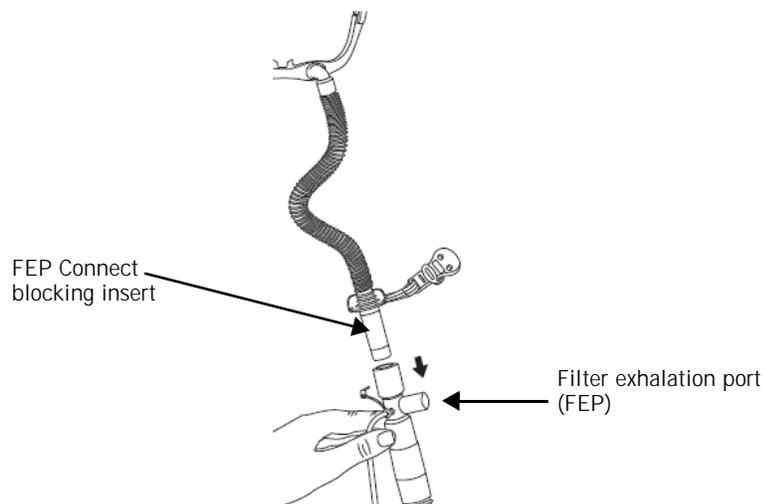

Figure 7-1: High flow nasal cannula using the FEP Connect
Use either the AC611 high flow nasal cannula with FEP Connector (Figure 7-1) or the AC611 high flow nasal cannula 22 mm (Figure 7-3), which connects directly to the patient circuit.
3. Install a Philips-approved high flow nasal cannula (Figure 7-1 and Figure 7-3 above) or a high flow tracheostomy interface on the patient circuit.